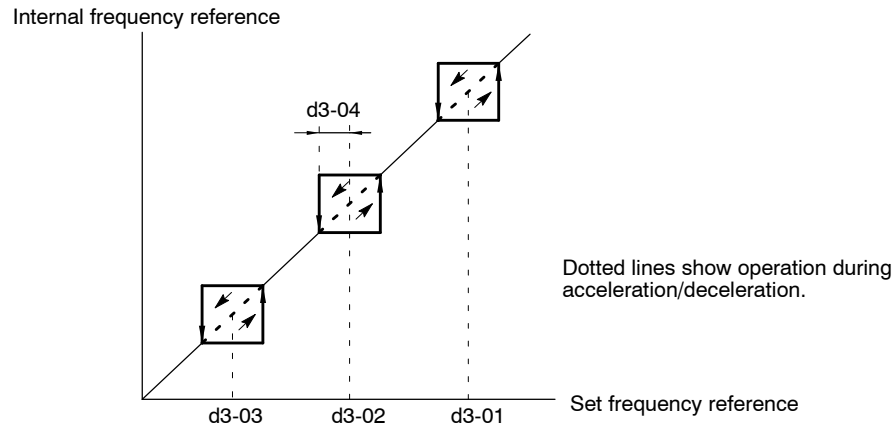

Fig 7.28 Setting Prohibited Frequencies
- The relation between the internal frequency reference and the set frequency references is shown in *Figure 7.28*.